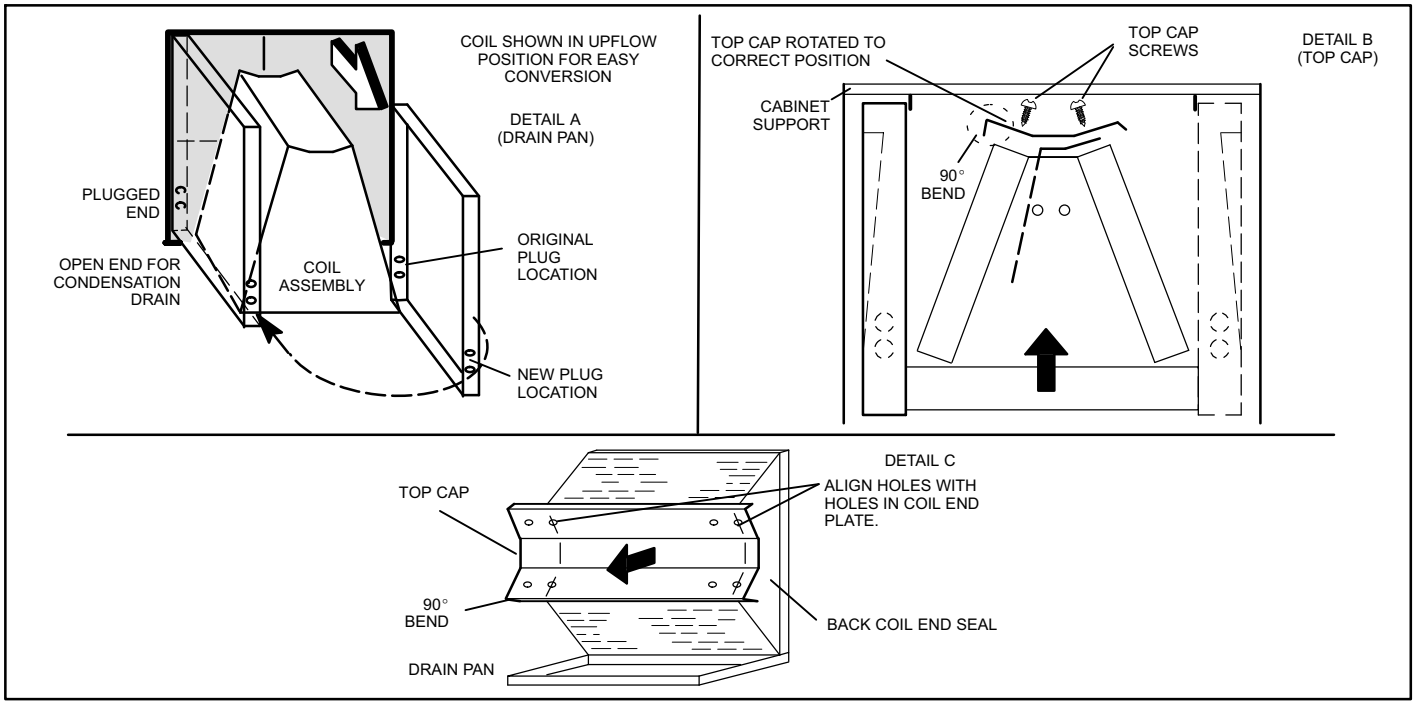

Figure 4. Left-Hand Discharge Modifications
1. Remove coil assembly from unit and remove the horizontal drain pan as illustrated in figure 4, detail A on page 6.
4. Remove screws from top cap. Remove horizontal drip shield screw located in the center of the back coil end seal as illustrated in figure 4, details B and C on page 6.
7. Rotate top cap 180° front to back and align with unused screw holes. Holes must align with front and back coil end plates. Note that top cap has a 45° bend on one side and 90° bend on the other. The 90° bend must be on the same side as the horizontal drain pan as illustrated in figure 4 on page 6.